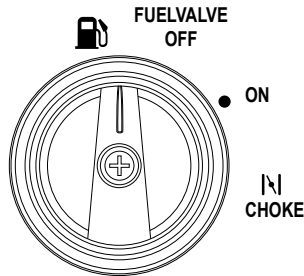

Figure 16. Fuel Cock (ON/CHOKE)
1. On the control panel, in warm weather, turn the fuel cock to the ON position (Figure 16).